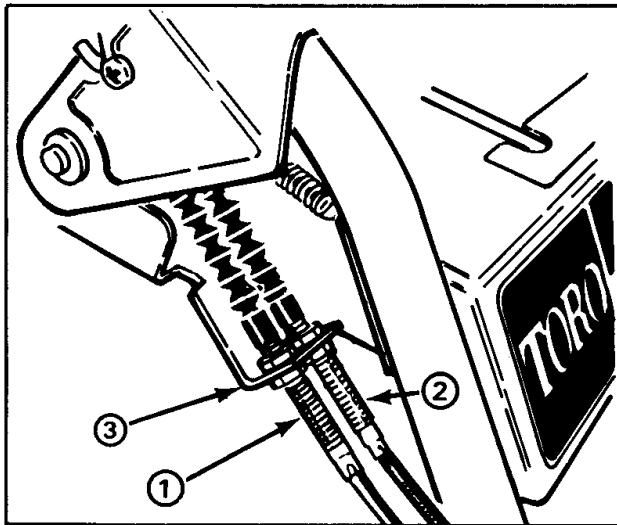

Figure 21
3. Loosen upper jam nut securing auger/impeller cable to mounting bracket (Fig. 21).
## ADJUSTING TRACTION DRIVE BELT (Fig. 21)
8. On control cable which corresponds to belt being replaced, loosen jam nuts securing cable to bracket (Fig. 21). Cable must be free to slide in bracket when changing belt(s).